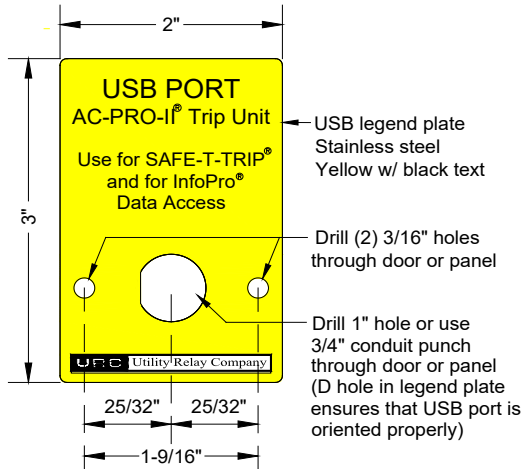

Figure 8: USB Plate Drilling
1. Find a suitable location on the cubicle door and mark the three (3) holes using the dimensions in Figure 8. **IMPORTANT:** The fixed USB "pigtail" is 12" long. This must be considered before drilling.
2. Drill two (2) 3/16" mounting holes.
4. Attach the USB legend plate to the front of the cubicle door using the supplied two (2) 8-32 screws, nuts, and lock washers.